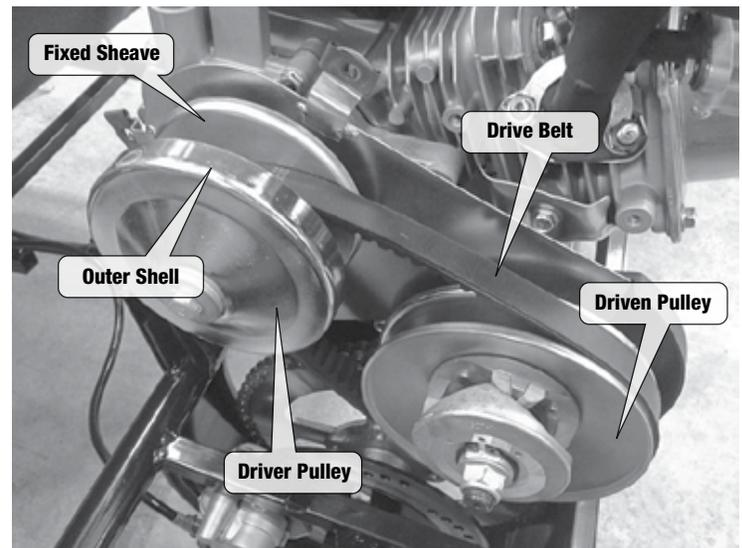

fig. 2
- a. Removal of the belt guard will expose the drive system. Ref Fig 2.
Using a Tape Measure, measure the distance on the driver pulley from the fixed sheave to the edge of the outer shell. Ref figure 2.